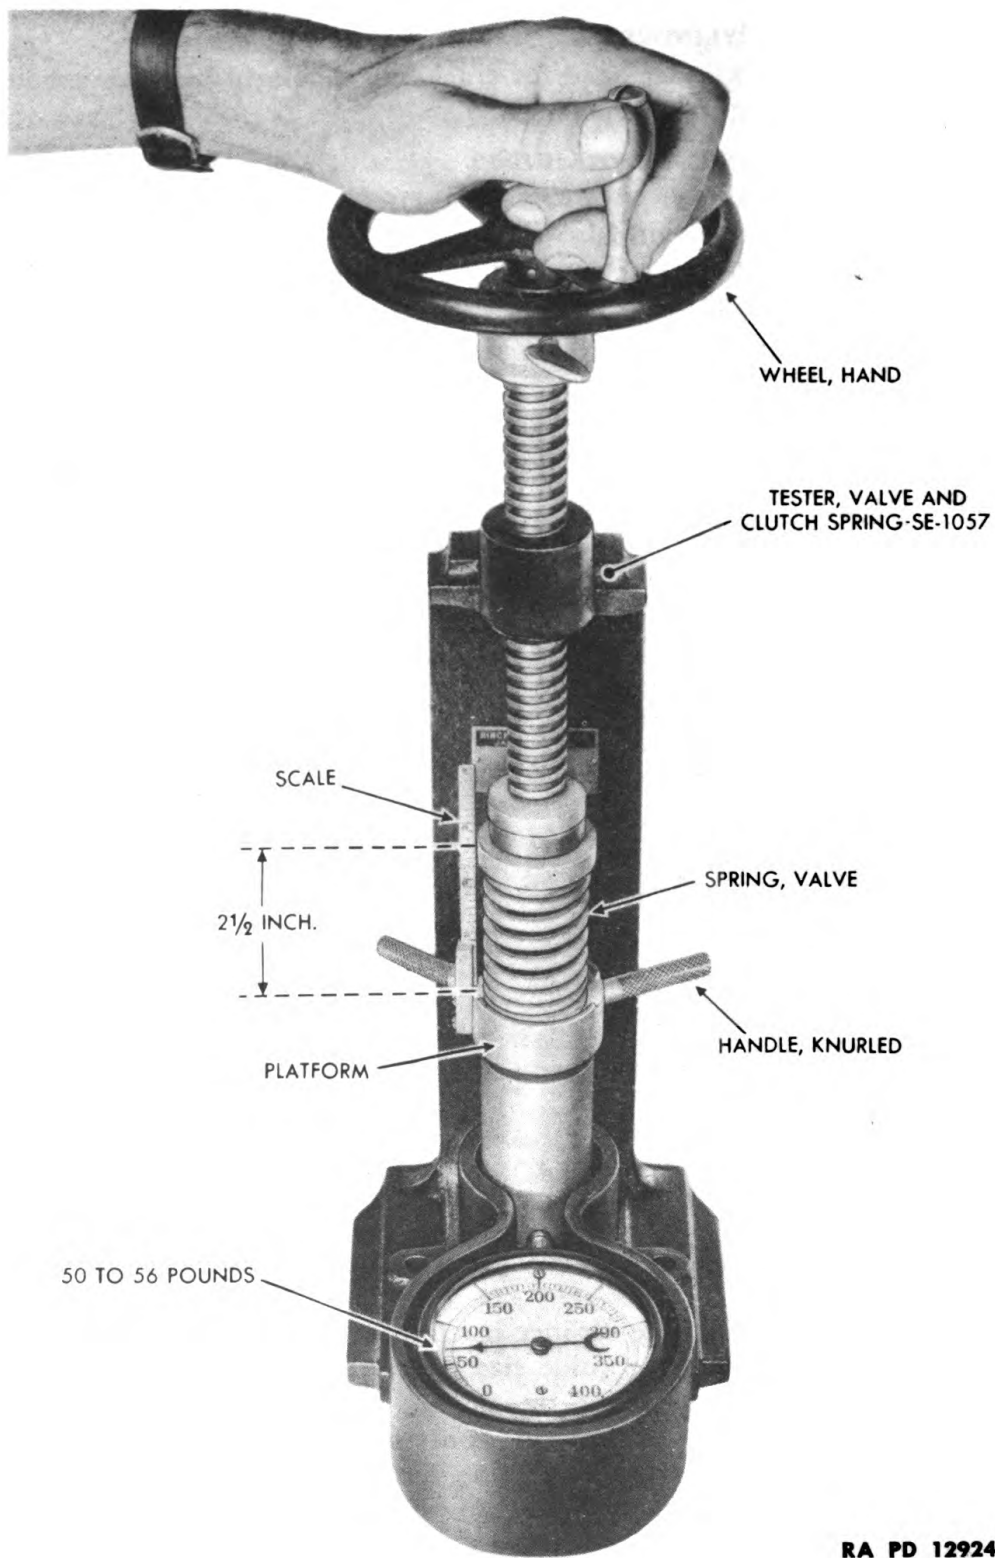

Figure 78—Testing Valve Spring Pressure
(8) TEST VALVE SPRING PRESSURE (fig. 78).